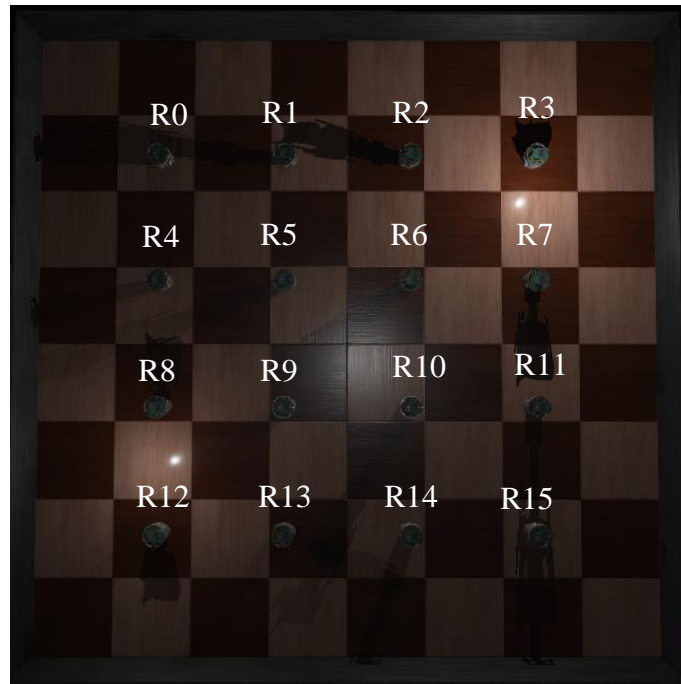

Figure 1: Sensor network to sense a light field
- a) (2 pts) The robots are positioned on a grid and are 0.4 m apart from each other. Assume that the maximum radius of communication for the robots is 0.6 m. What is a network topology that allows the network to communicate and send data to R0 (please use the naming convention in Figure 1)? (Hint: To answer this question without drawing the graph of the topology you can write the connections from each leaf (or terminal) node to R0. E.g. if $R7 \rightarrow R6 \rightarrow R5 \rightarrow R0$, no need to write $R6 \rightarrow R5 \rightarrow R0$)